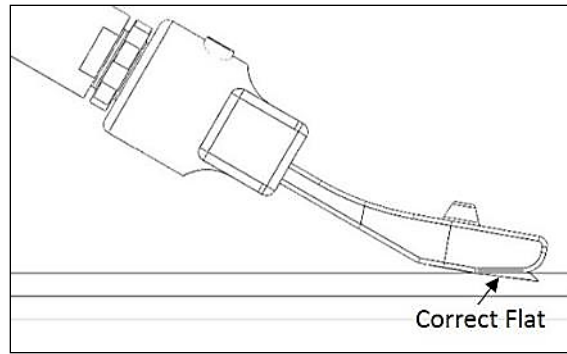

Figure 9. Correct Tool Alignment
- 3.2.3. With the forward cutting edge of the TGB engaged in the gap filler, pivot the pneumatic tool so the flat on the gap blade adapter (closest to the nose) is parallel and in contact with the structure on both sides of the gap. See **Figure 9**.